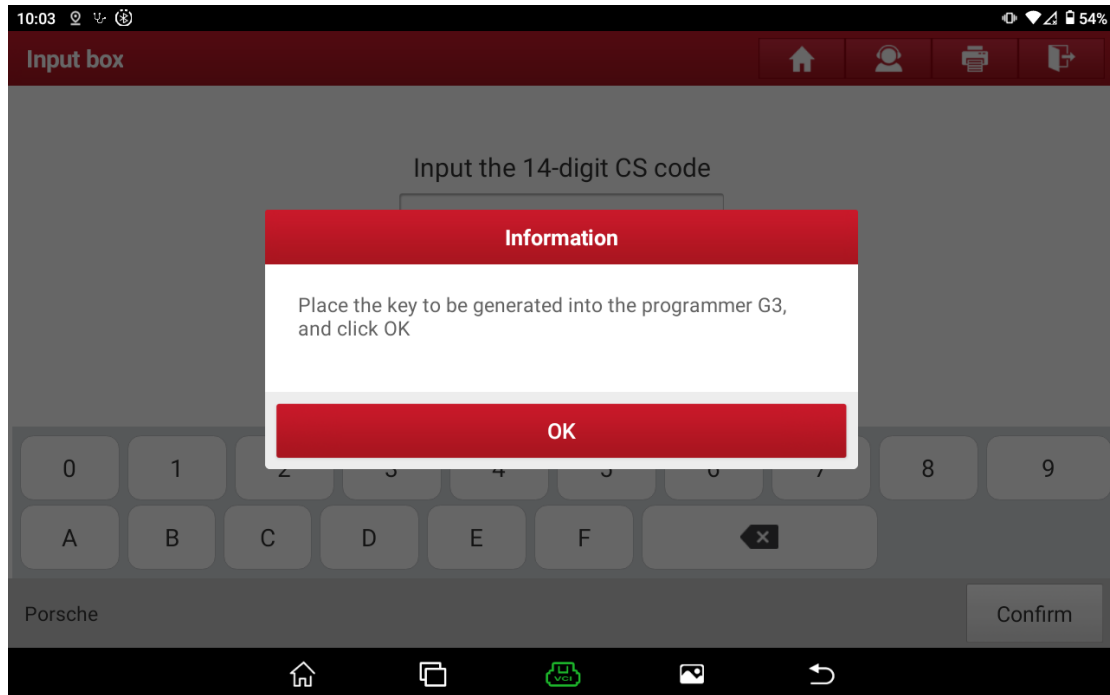

Figure 6 Prompt
5. Choose the [Dealer Key] menu, and put a brand new key into the immobilizer programmer G3 according to the prompt in Figure 6.